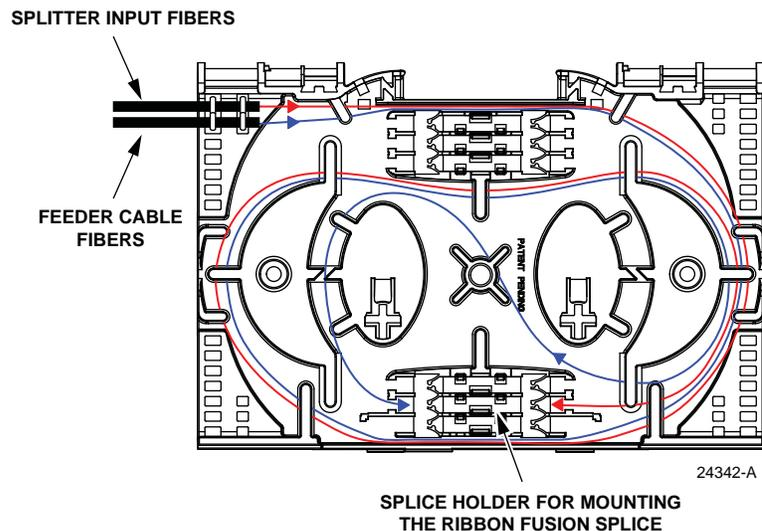

Figure 25. Splicing Ribbon Feeder Cable
4. Adjust and route the two fiber ribbons within the splice tray and mount the splice chip as shown in Figure 25.